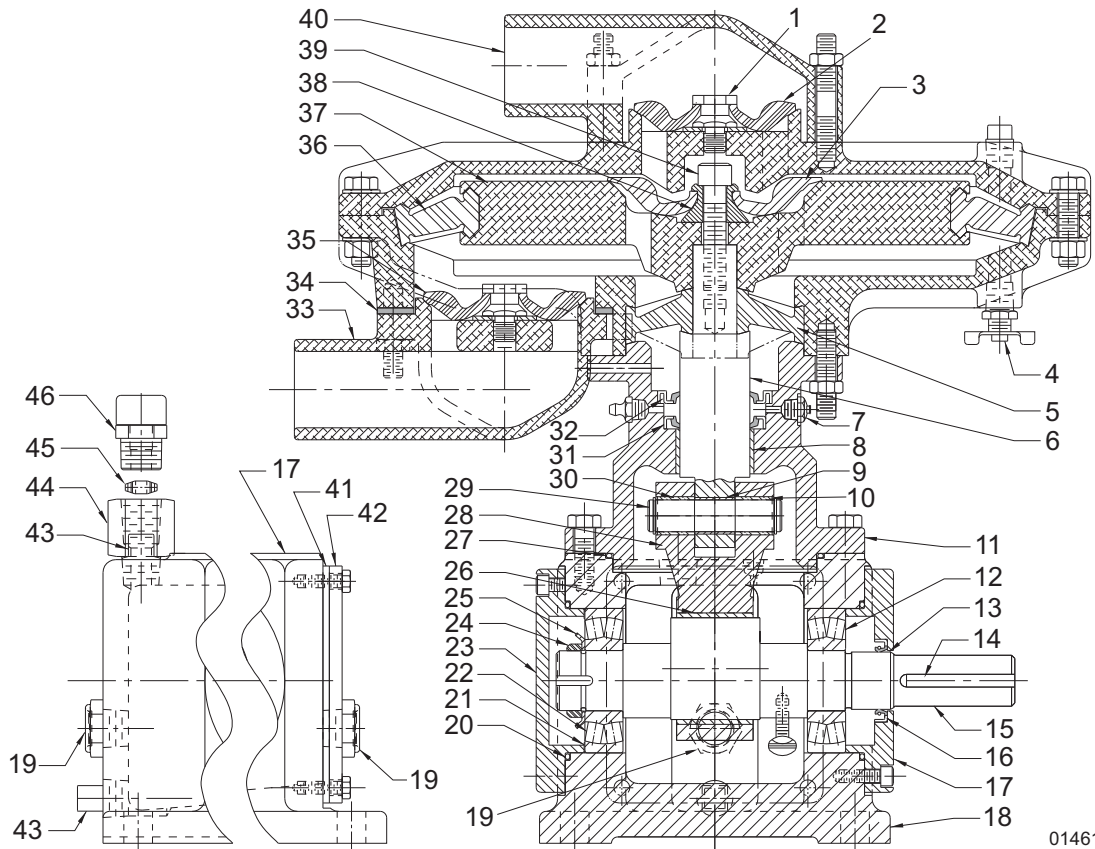

Figure 25 - Diaphragm Vacuum Pump Cross-section
1. On a new replacement shaft, with a zero lead ground lip seal surface, no speed-sleeve is required. On a reinstalled shaft, when surface condition dictates, or on a new shaft with a turned surface, install a speed-sleeve .06-.12 in. (1.52-3.0 mm) past the outside drive end shoulder. Refer to Figure 25 on page 64.